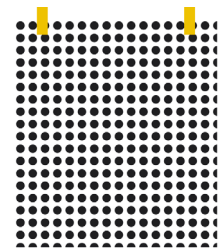

Figure 01
- › Tape the MICROCGUV FILM into place at the top using masking tape. (FIG. 01)